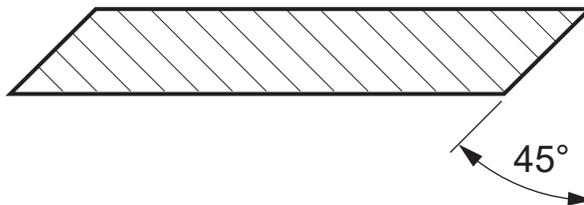

Figure 47—Sharpen rotor knives to a 45° angle
5. Use a grinder to sharpen the cutting edge of the rotor knife. Sharpen the cutting edge to a 45-degree angle. See *Figure 47*.